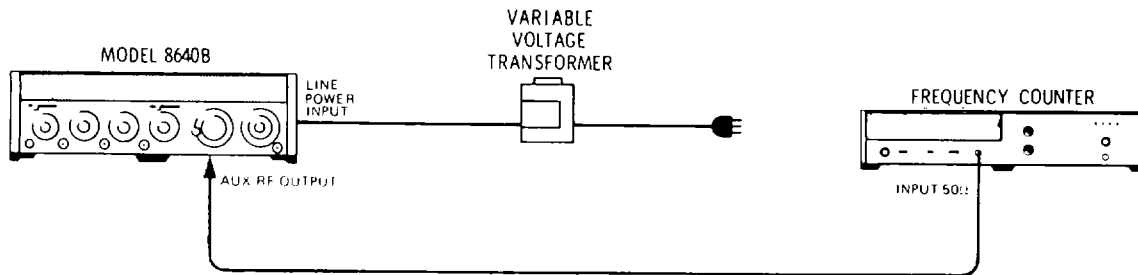

Figure 4-3. Frequency Stability us Line Voltage Test Setup
- 1. Connect equipment as shown in Figure 4-3 after setting Signal Generator's controls as follows: